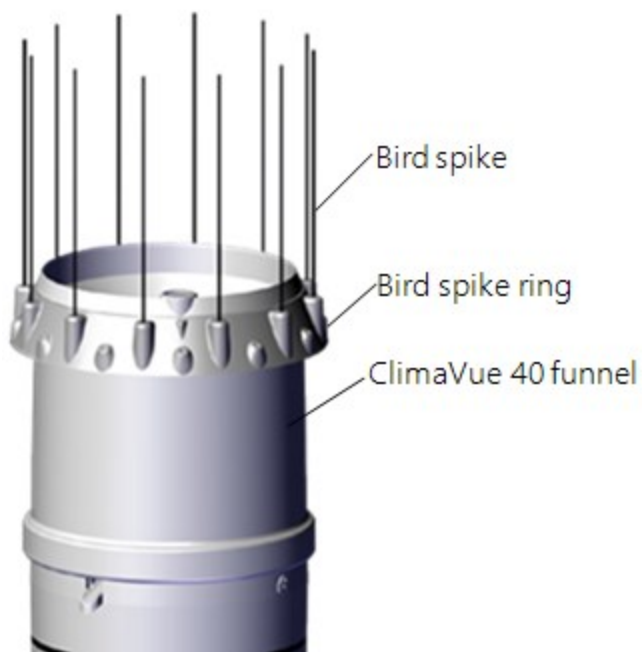

Figure 6-6. Bird-spike kit mounted properly
7. Press finished bird deterrent onto the ClimaVue 40 funnel to at least the depth shown in Figure 6-6 (p. 14).